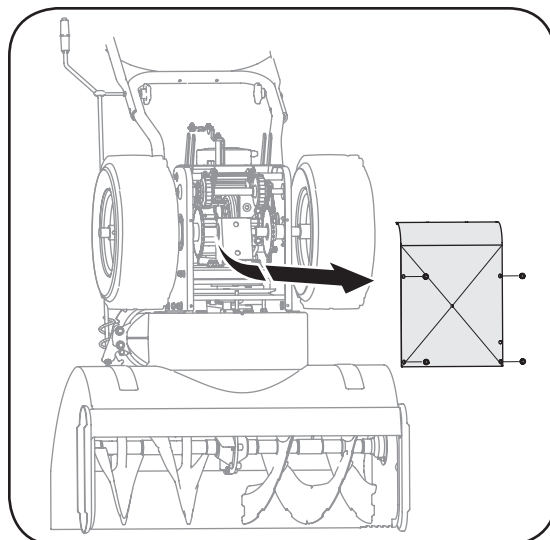

Figure 5-3
1. With the snow thrower tipped forward (be certain to drain gasoline or place plastic film under the gas cap if the snow thrower has already been operated), remove the frame cover underneath the snow thrower by removing the self-tapping screws. See Figure 5-3.